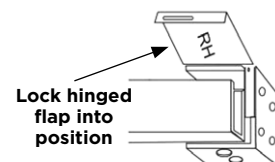

Figure 2
- Insert headrail into mounting brackets (part A) (Figure 2) and lock hinged flaps down to hold headrail in position
- Screw the valance clips (part C) the back of the valance supplied, flush with the top of the valance (Figure 2)